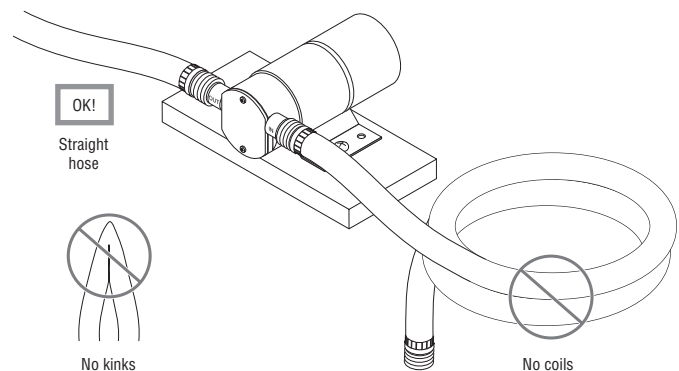

**Figure 2 - Hose Connections**
3. Connect the outlet hose. Make the outlet hose as short as possible – 25' or less. See Figure 2 (typical pump shown).